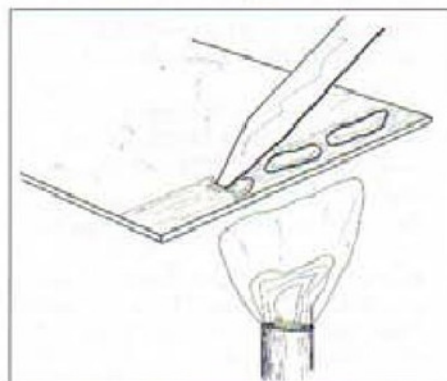

Fig. 3. Spread the solder with a stainless-steel scraper.
4. Initial tinning will be patchy. Spread the solder by scraping with the stainless-steel scraper. Do not overheat (Fig. 3).